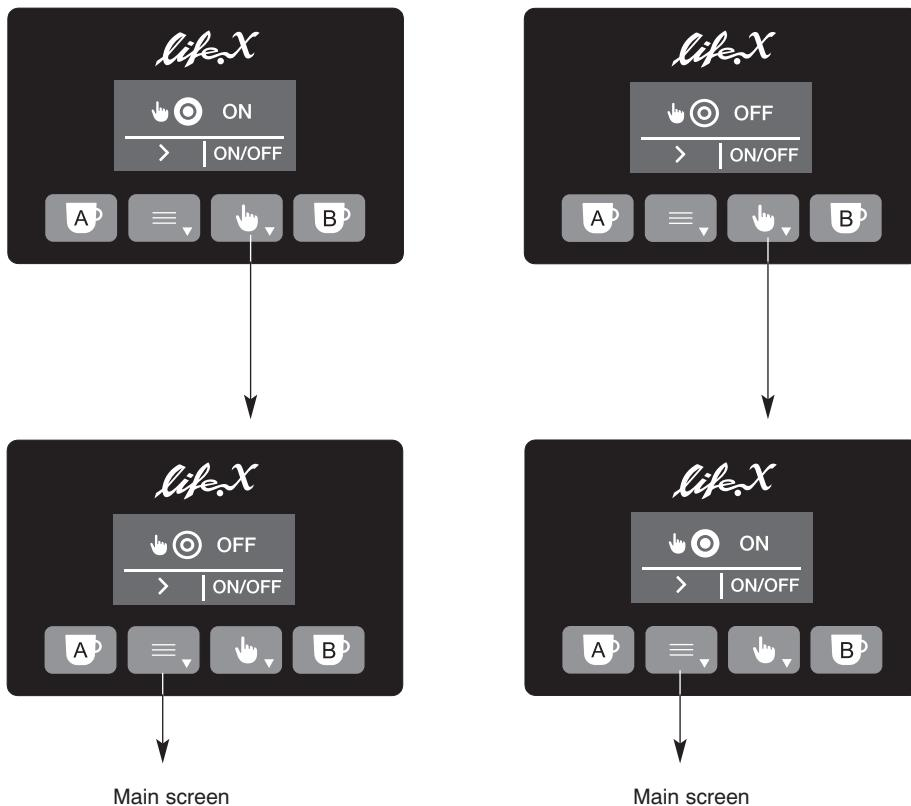

Fig. 13
**SETTING PULSE MODE (only for manual operation)****see Fig. 12 and Fig. 13**
In the **pulse mode** screen, pressing the button  you can set the pulse function "ON" or "OFF" (Fig. 13).